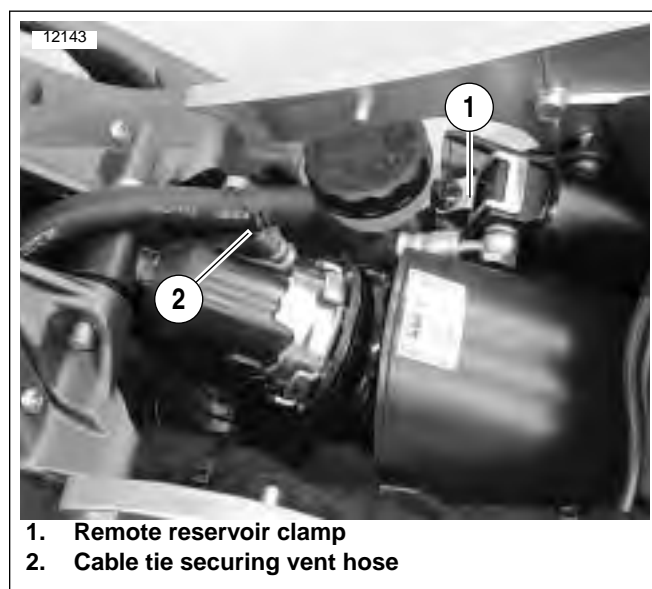

Figure 2-91. Rear Shock Absorber and Remove Reservoir (XB12Ss shown)
3. Place a scissor jack under jacking point at the rear muffler and raise chassis until load has been removed from the lower shock bolt (7). See 2.31 EXHAUST SYSTEM for jacking point.
4. See Figure 2-91. Cut the cable tie (2) securing vent hose to shock housing.